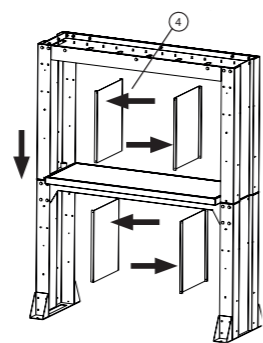

FIG 3
4. Place and screw firmly the upper assembly to the lower one (see fig. 3).
5. Once the fluid pipes are installed, place the tool holding panels (5) on the sides of the upper and lower supports.
4. Lyft upp gavlarna och monteringsplattan på benen och stödet (fig 3).